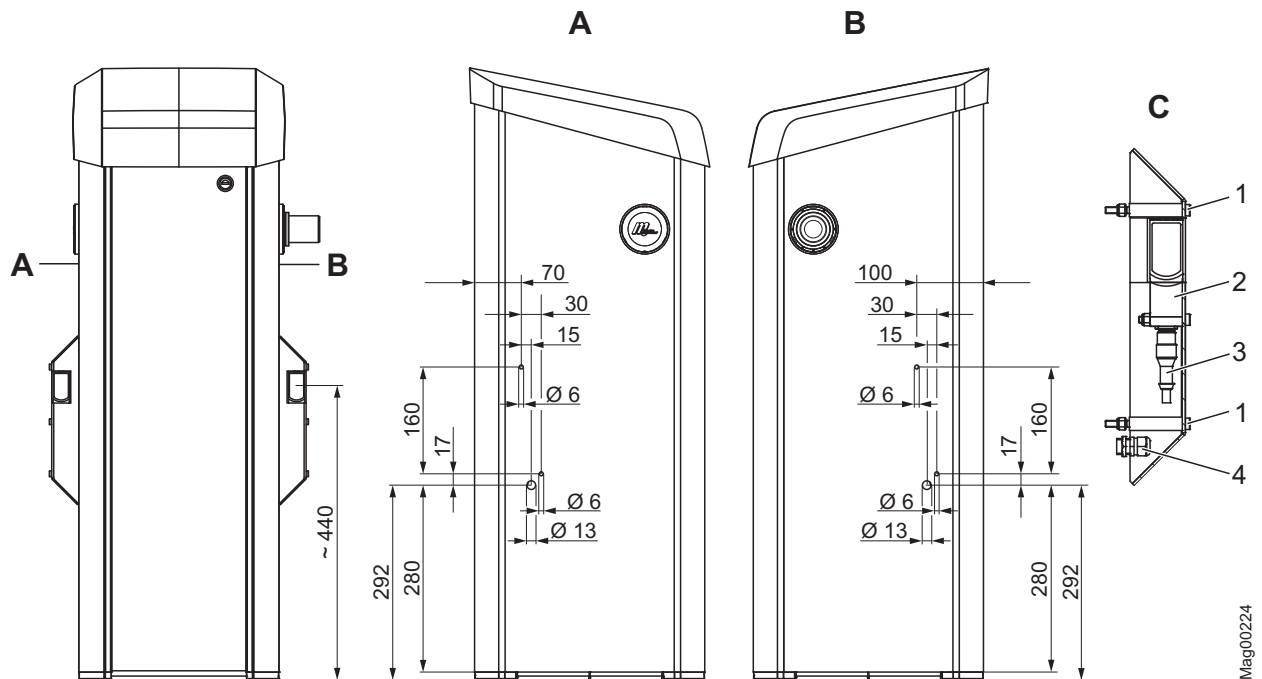

Fig. 25: Assemble of the transmitter's light barrier housing on the barrier housing
1. Drill holes for the light barrier housing according to Fig. 25. Mount the cable screws at the housing with counter nut.